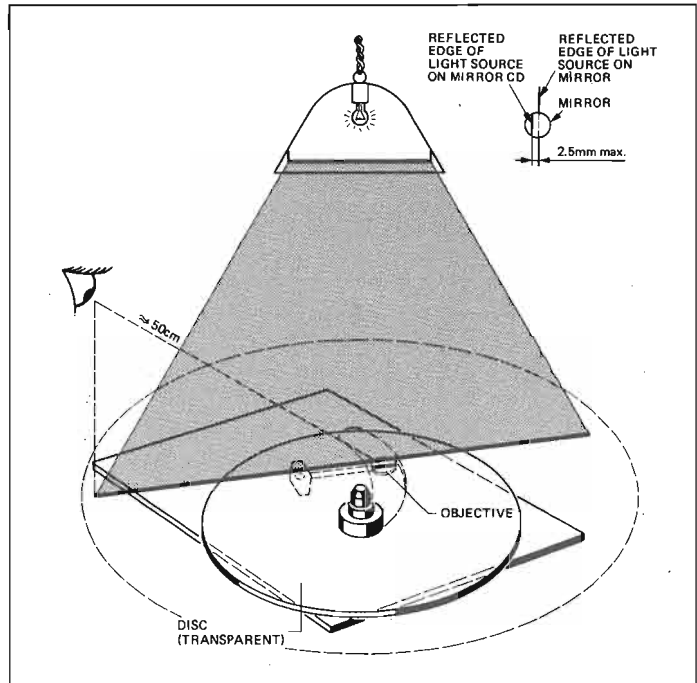
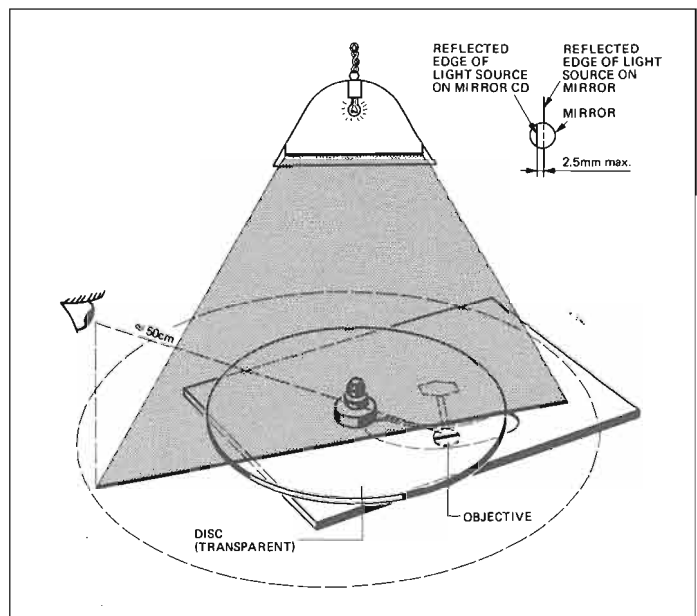

Fig. 4.11
Fig. 4.12
→ Fig. 4.11 / Fig. 4.12
- When observing the two shadow lines on the glass CD and on the mirror (Fig. 4.11), the lateral offset should not exceed 2.5 mm.
- Position the play mechanism in such a way that the shadow line runs perpendicular to the pickup arm but runs through the center of the mirror on the optical Laser system (Fig. 4.12).